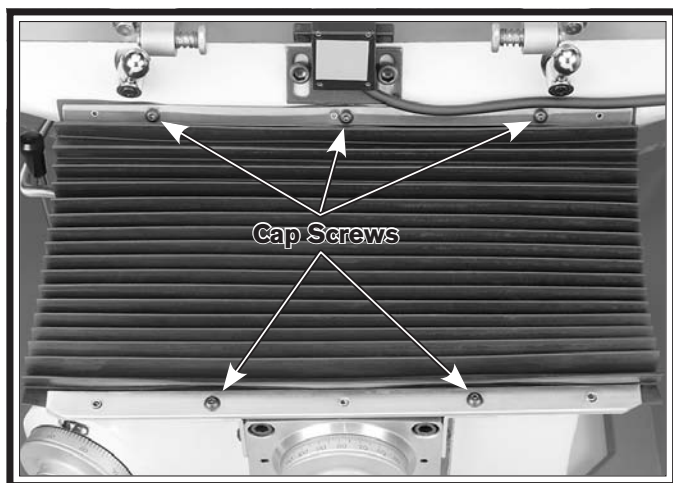

Figure 11. Front way cover installed.
9. Remove the five button-head cap screws shown in **Figure 11** from the front of the saddle and knee, position the pleated way cover in place, then secure it with the removed cap screws.